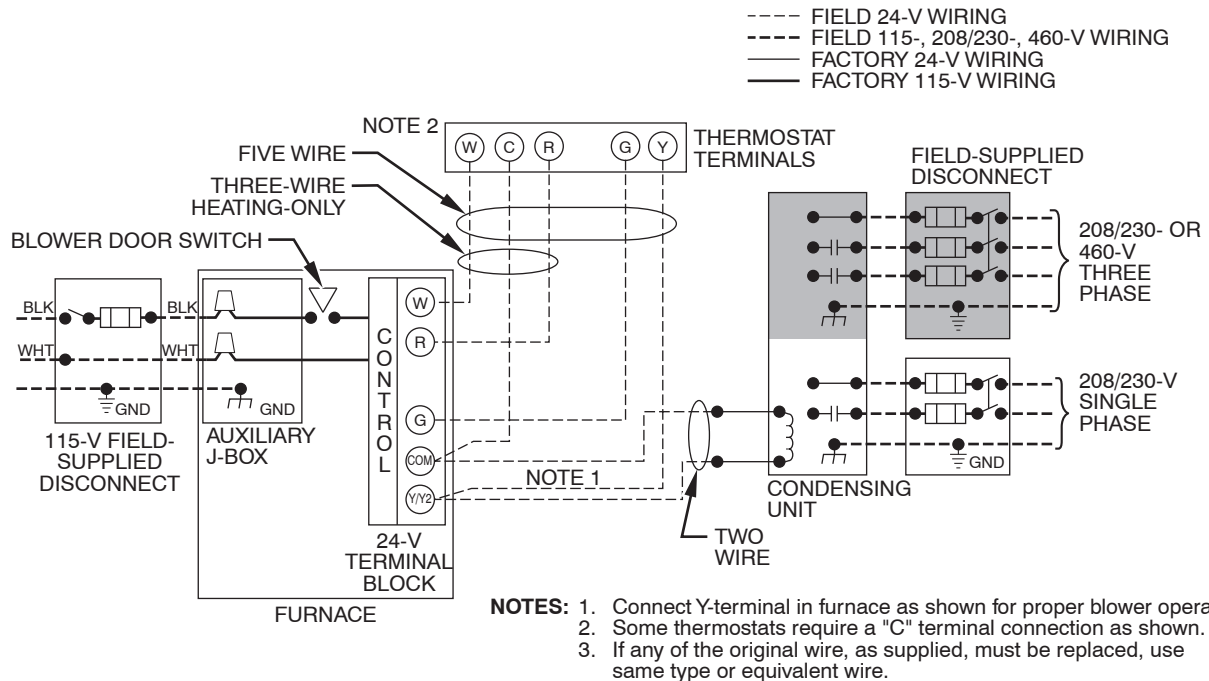

Fig. 26 – Heating and Cooling Application Wiring Diagram with Single Stage Thermostat
See Fig. 26 for field wiring diagram showing typical field 115-v wiring. Check all factory and field electrical connections for tightness.
5. Connect line voltage leads as shown in Fig. 26.
12. Complete electrical box wiring and installation. Connect line voltage leads as shown in Fig. 26. Use best practices (NEC) for wire bushings, strain relief, etc.
Make field 24-v connections at the 24-v terminal strip. (See Fig. 25.) Connect terminal Y as shown in Fig. 26 for proper cooling operation. Use only AWG No. 18, color-coded, copper thermostat wire.